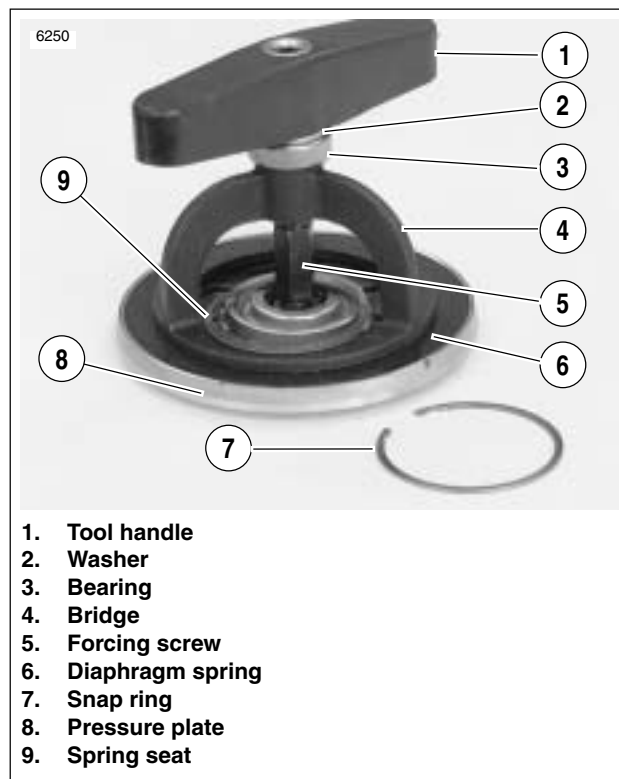

Figure 6-19. Pressure Plate Assembly
9. See Figure 6-19. Disassemble pressure plate.